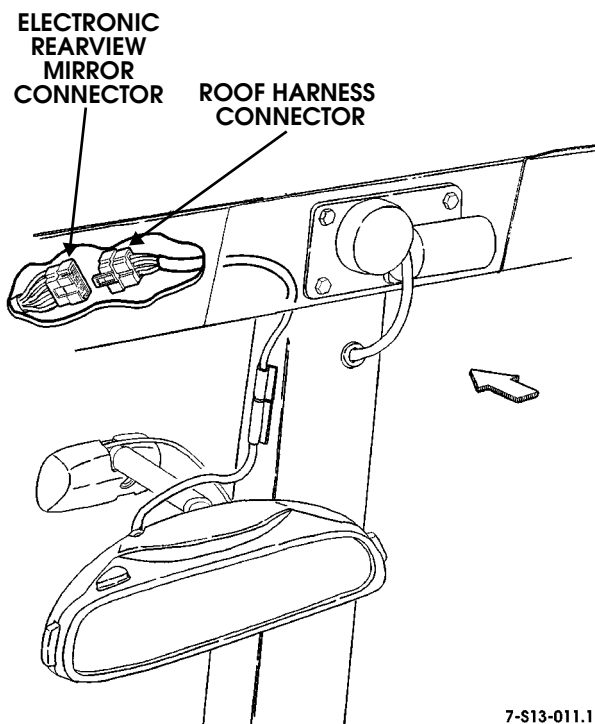

Figure 13-77: Electronic Rearview Mirror Connector
2. Disconnect the rearview mirror connector from the roof harness connector (Figure 13-77).